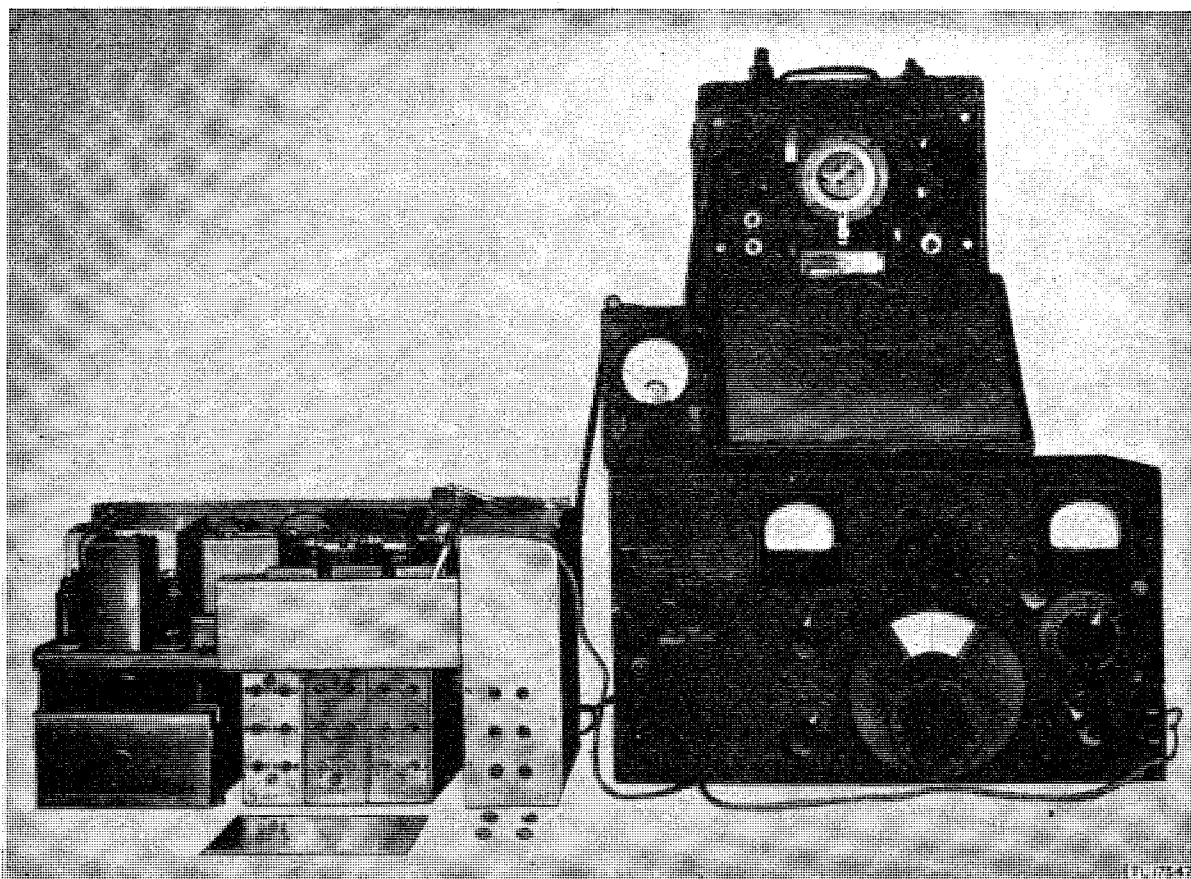

Figure 16. R-f alignment, typical set-up.
b. PREPARATION. Set up the receiver and alignment equipment as shown in figure 16. Calibrate the signal generator for a 2,900-kc signal (par. 16). Set the receiver BAND CHANGE switch on band A, the OFF-M. V. C.-A. V. C. switch to M. V. C., the C. W.-OSC. switch to OFF, CRYSTAL PHASING control to OUT, the VOL. control to maximum, and the receiver dial to 2,900 kc. Remove the shield plate covering the r-f and first detector adjustment screws on the rear of the chassis; loosen the adjustment screw locknuts.
(1) Attach the signal generator ground lead